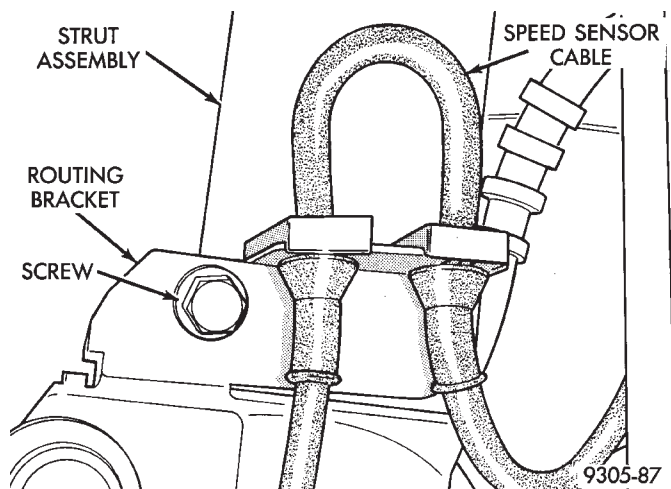

Fig. 3 Speed Sensor Cable Routing Bracket
(5) Remove the speed sensor cable routing bracket from the strut assembly (Fig. 3).